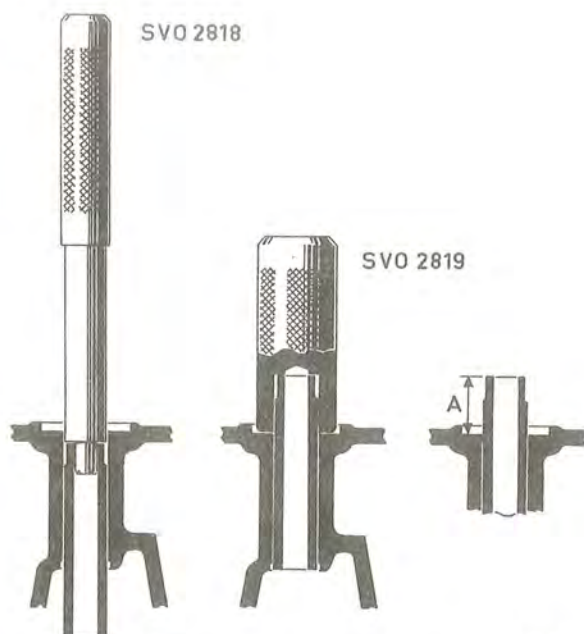

Fig. 2-21. Replacing the valve guides
2. Press in the new guides using drift SVO 2819, which gives the correct pressing-in depth. See Fig. 2-21.